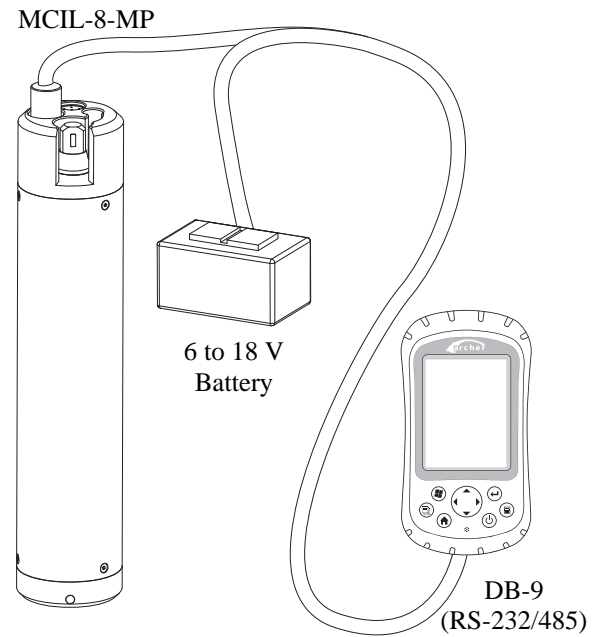

FIGURE 1-4. Connections and Wiring of Field Cable
3. Connect the OBS-3A to the Archer with the test cable (FIGURE 1-4).